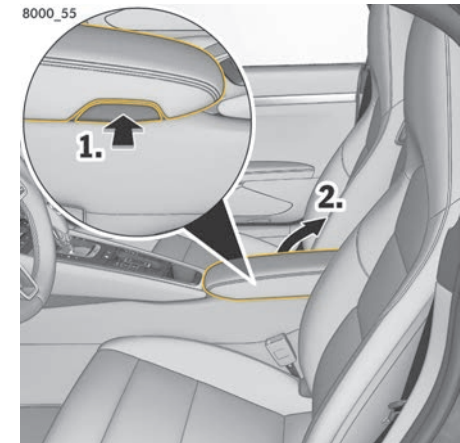

Fig. 213: Opening the storage compartment in the centre console armrest
- ▶ Press the button (Fig. 213) on the right-hand side of the armrest. The lid pops up automatically.